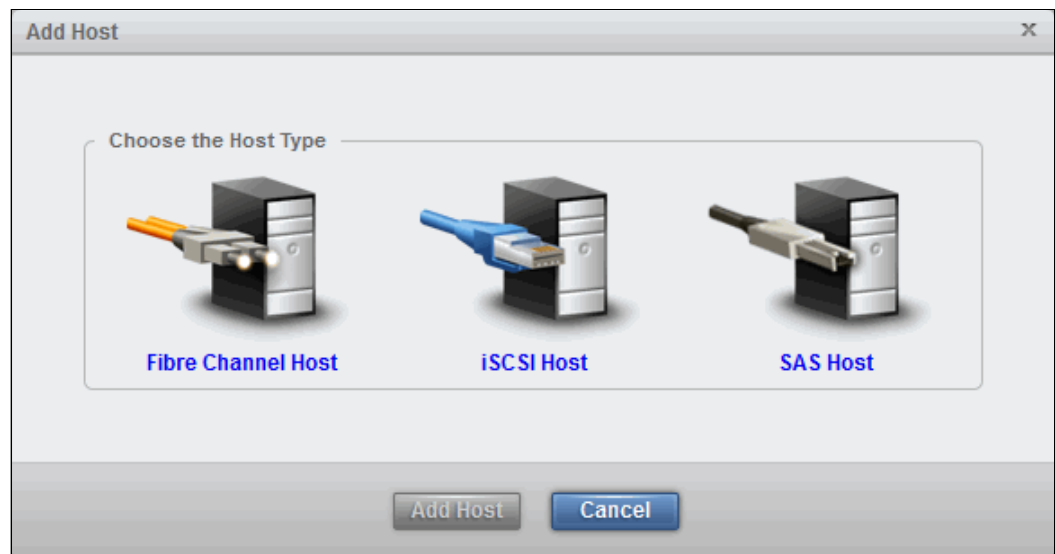

Figure 4-33 Choosing the host type in the Add Host wizard
2. Click the **Add Host** button to open the Add Host wizard, as shown in Figure 4-33.